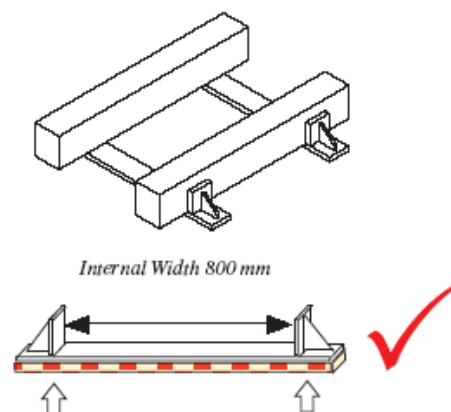

Figure 3: Alternative arrangement for Industrial Products: Timber Dunnage on Steel Rack on Conveyor Belting or Industrial Rubber
- ✓ Alternatively, Steel Racks may be used on smaller reels – refer Figure 3
- If the rack is too big for the reel, **an alternative reel rack must be used**, as per Figure 3.